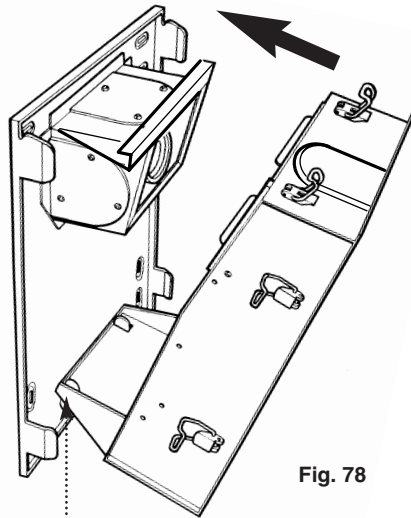

Fig. 78
2. Swing the top of the combustion box backwards against the top air box (Fig. 78).